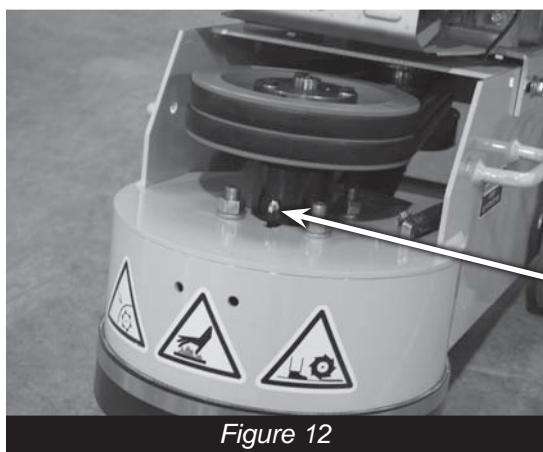

Figure 12
- Bearings (*Figure 12*) must be lubricated weekly with Lubriplate 930-AA High Temp Grease or equivalent.